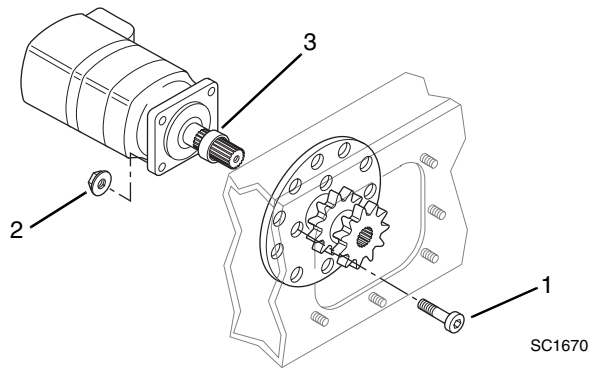

Figure 5-56 Drive Motor Removal
6. Remove and discard the socket head capscrews (Fig. 5-56, 1) and nuts (2). Remove the travel motor from inside the frame of the vehicle by pulling the splined shaft of the motor out of the drive sprocket. Retain the spacer (3) located between the travel motor and drive sprocket for later reassembly.